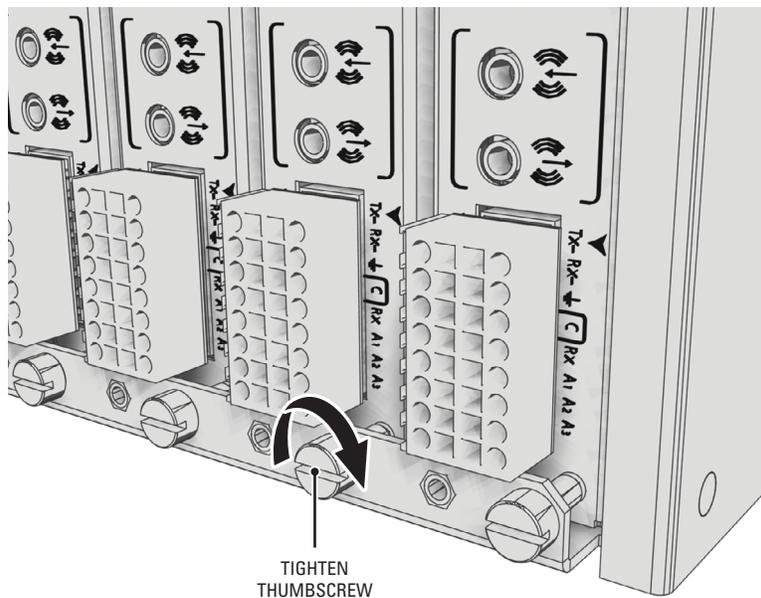

Figure 9. Tighten Thumbscrew to Secure the Unit
3. Tighten the thumbscrew on the rack mount to secure the unit to the rack (refer to Figure 9).